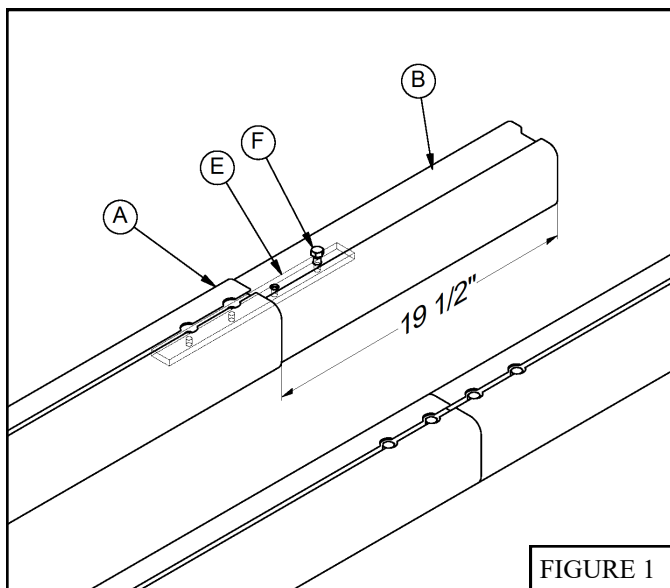

FIGURE 1
1. Remove the 39" Inner Connecting Tube (B), Connecting Bar (E) and 3/8" X 1" Hex Bolts (F) from inside each Crossbar Section (A) box. See Figure 1.
2. Place two Crossbar Sections (A) end to end with the rear net attachment track facing upward. Insert the 39" Inner Connecting Tube (B) approximately 19 1/2" into Crossbar Section (A). Use Connecting Bars (E) and 3/8" X 1" Hex Bolts (F) to complete assembly of 2 piece crossbars as shown. See Figure 1.